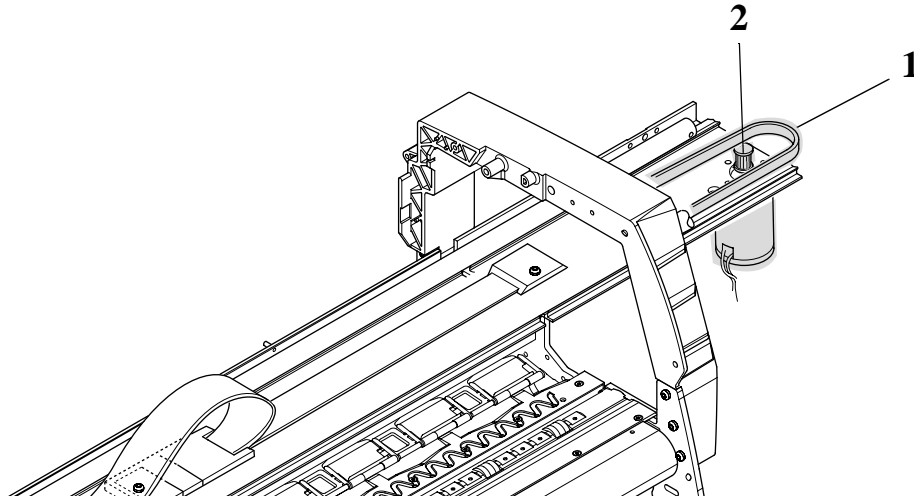

Figure 45: Carriage Assembly and Belt
10. Remove the belt (item 1) from the belt motor pulley (item 2) on the right hand side of the Printer (refer to Figure 45)